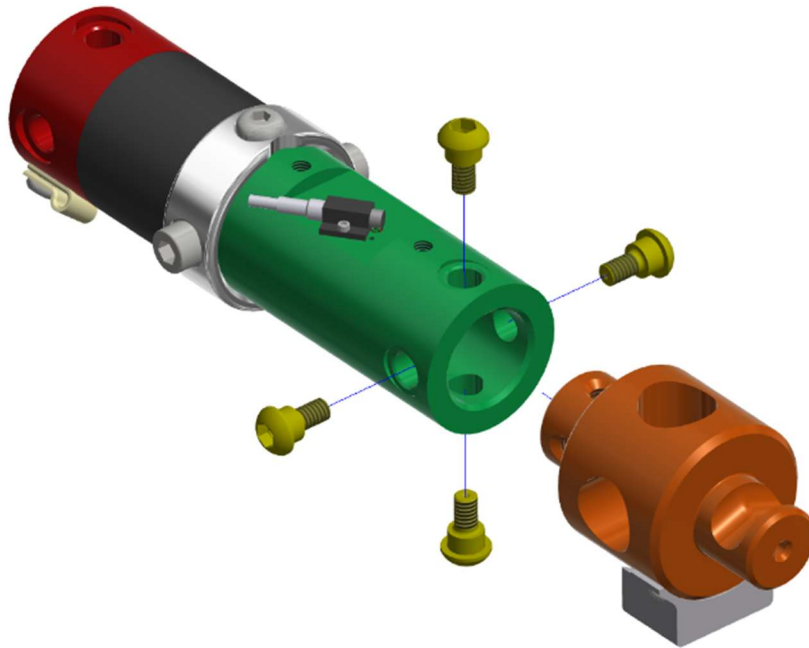

Figure 10-58. Attach the Lower Tibia Load Cell (SA572-S104)
10.3.23 Attach the Lower Tibia Load Cell (SA572-S104) using four Modified Thread M6 BHSS (Figure 10-58).